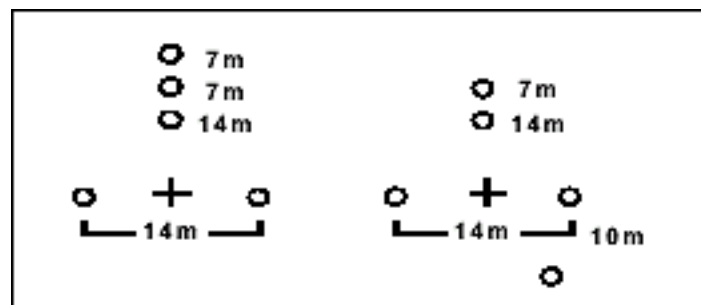

Figure 4-16. Placement of fifth light using inverted "Y," when coordinated.
(1) Pathfinders display an inverted "Y" for cargo aircraft. This marker consists of five lights. Pathfinders place the fifth light IAW prior coordination with the supporting aviation unit (Figure 4-16). The fifth light can go 7 meters from last stem light or 10 meters below right flank light.